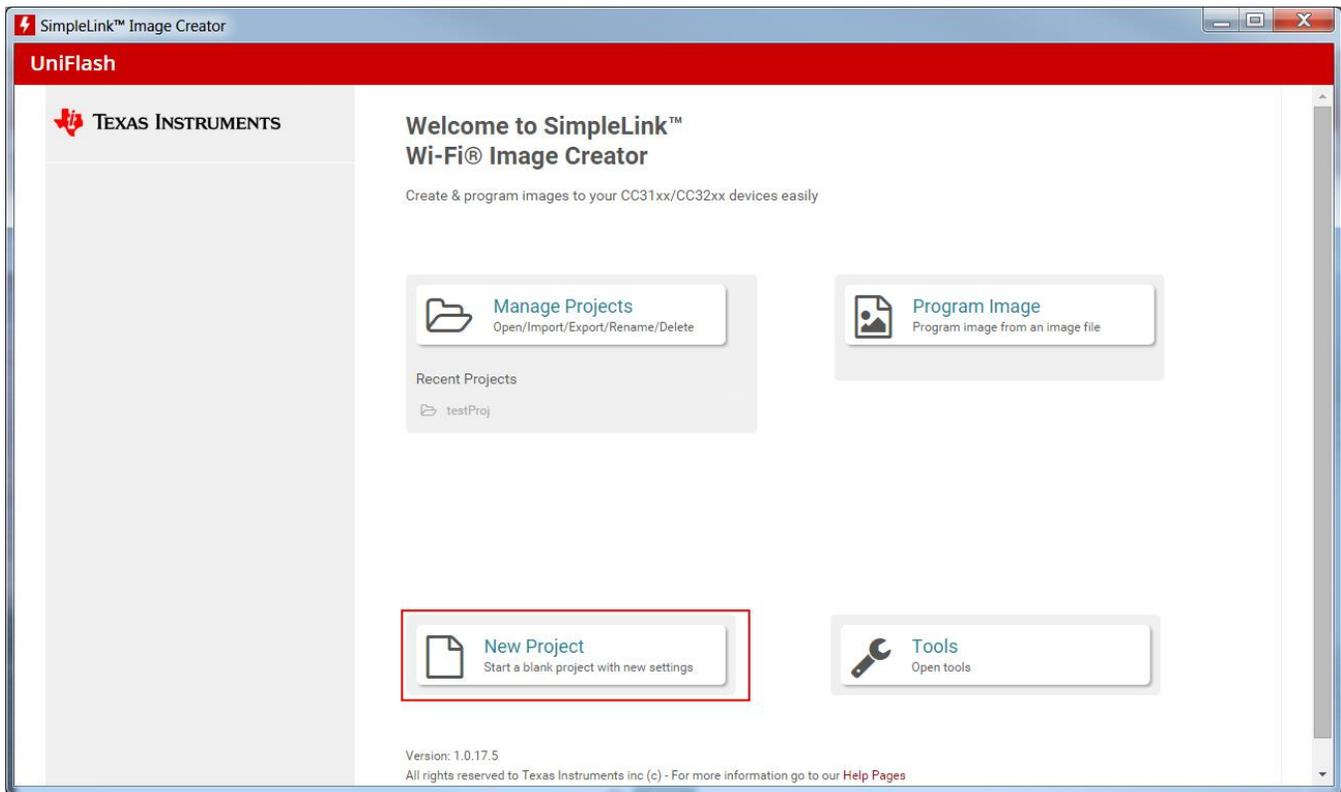

图 16. New Project
3. After starting Image Creator, click on the *New Project* button as in 图 16.